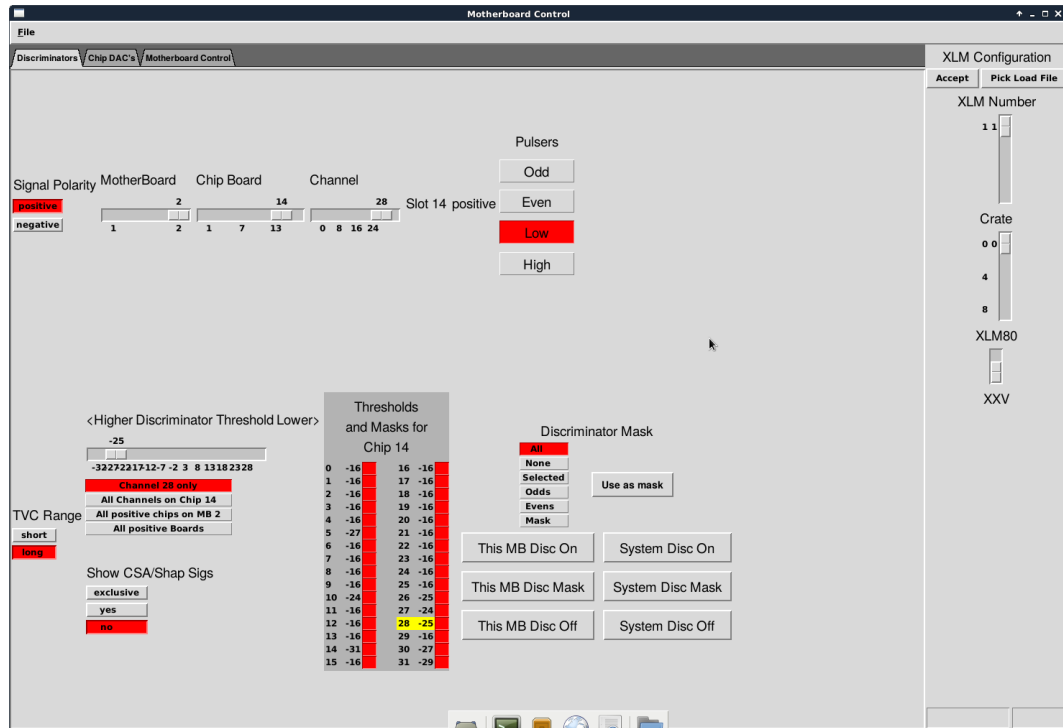

Figure 2: CHIP window.
- `./CHIP`, the window as displayed in Fig. 2 will appear.